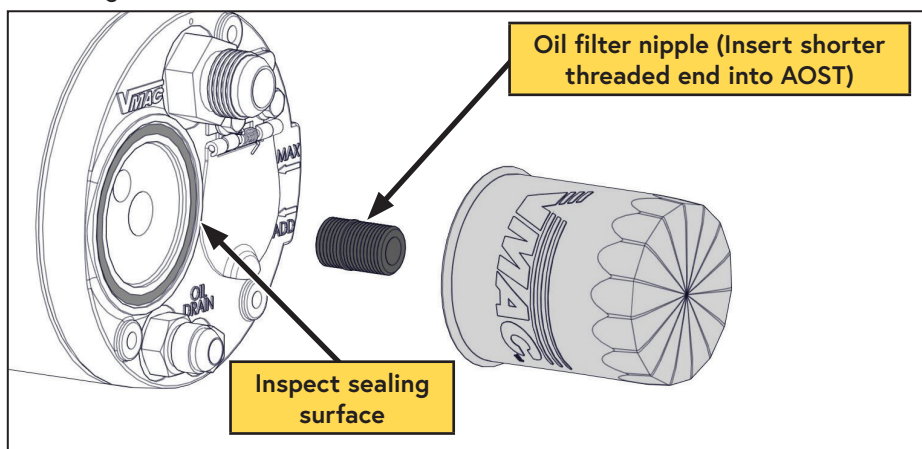

Figure 25 — Compressor oil filter
- ☐ Remove the oil filter (Figure 25).
- ☐ *To reinstall the nipple, thoroughly clean the threads and apply Loctite 242 (blue) to the end with the short threads and replace it in the AOST (Figure 25).
- ☐ Clean the gasket sealing surface on the front of the AOST and inspect it for damage. The surface must be free of old gasket material and smooth to ensure a good seal (Figure 25).